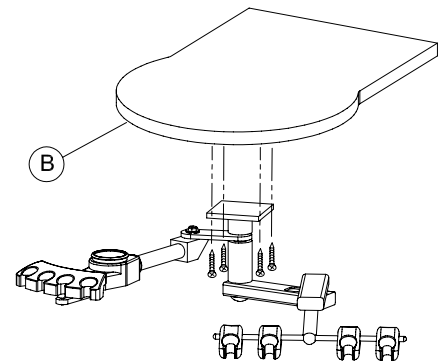

FIGURE 7
Mount the left-right rear delivery unit underneath the sliding countertop (B) using (4) #10-32 x 3/4" allen head screws (requires 5/32" allen wrench). See Figure 7